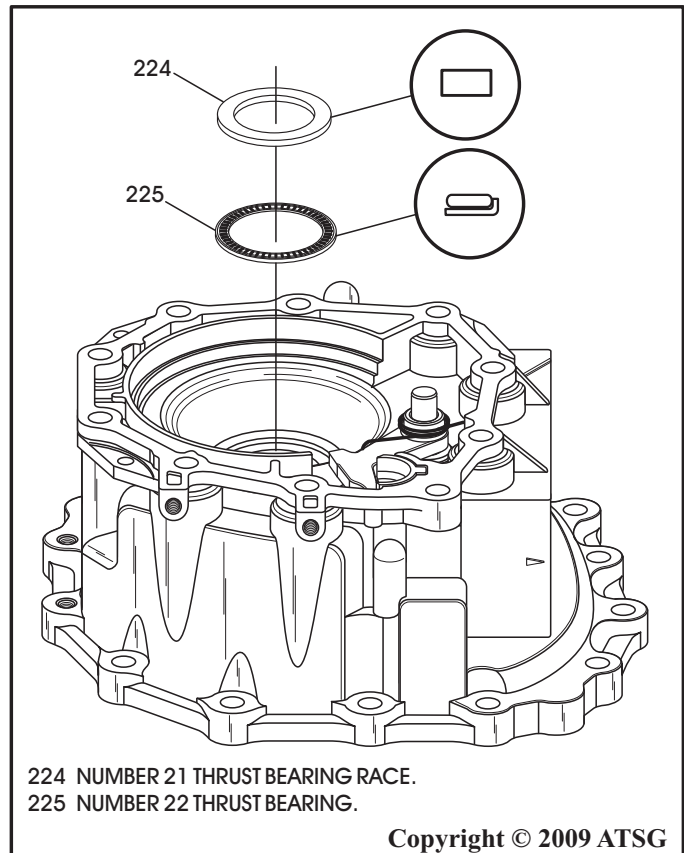

Figure 154
9. Install the number 22 thrust bearing with the needles facing up, as shown in Figure 154, and retain with Trans-Jel®.